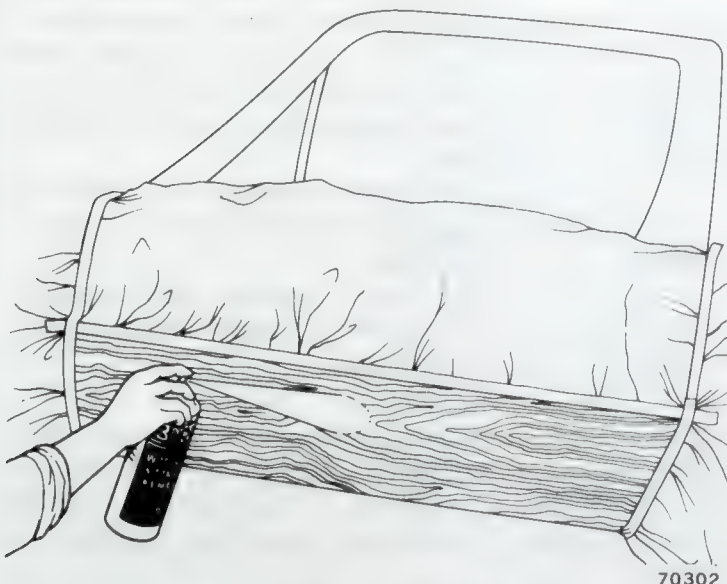

Fig. 3P-24 Spraying Remover on Overlay
(1) Clean repair surfaces, adjacent panels, and openings as required.
(2) Remove overlay reveal mouldings, door handles, lock assembly, side marker lamps, or other overlapping parts from the affected panel.
(3) Mask off area surrounding the panel.
(4) Scuff sand overlay with 220 grade dry sandpaper. Avoid cutting through and reclean overlay.
(5) Spray 3M Woodgrain and Stripe Remover, or equivalent, on flange area first. Then spray entire overlay to be removed (fig. 3P-24). Move spray can back and forth across entire overlay in a smooth steady motion. Make sure entire overlay is coated with remover.